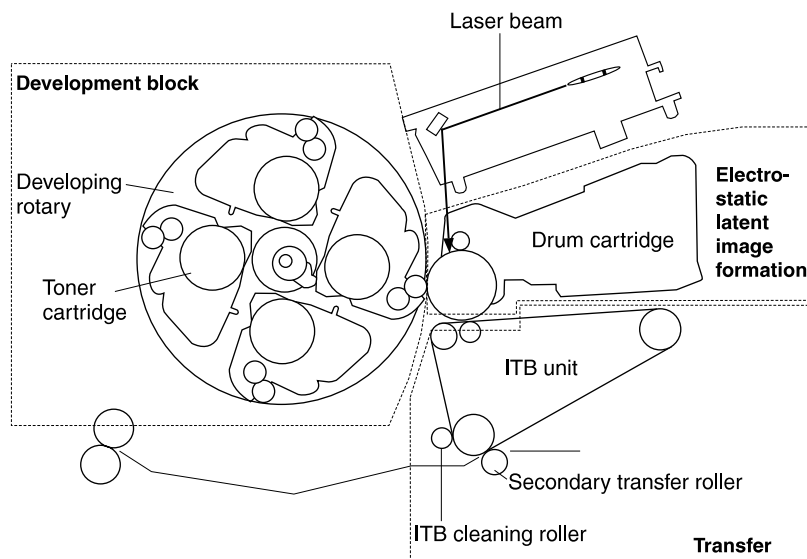

Figure 5-2 Image formation
- secondary transfer roller (see Figure 5-2)